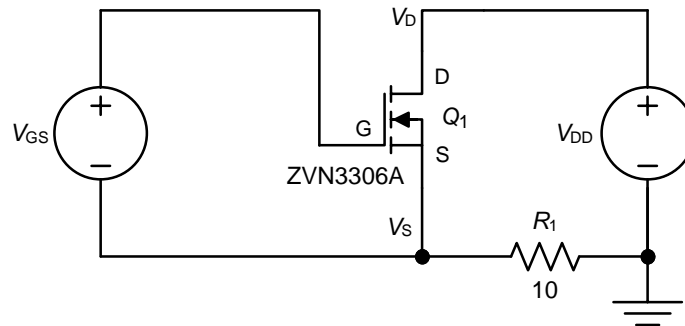

Figure 4. Circuit for measuring the I - V characteristic of a NMOS transistor.
Question 2. The I - V characteristic of an NMOS transistor can be measured with the circuit shown in Fig. 4. The V_{GS} source will be provided by the 6V DC power supply, while the V_{DD} source will be provided by the signal generator. R_1 is a current sensing resistor. The peak amplitude of V_{DD} and the voltage across R_1 yield I - V characteristic of Q_1 for the given V_{GS} . A family of I - V curves can be obtained by V_{GS} .
The first circuit will be built to evaluate the behavior of an NMOS transistor, as shown in Fig. 4. The V_{GS} source will be provided by the 6V DC power supply, while the V_{DD} source will be provided by the signal generator.
2. Construct the circuit shown in Fig. 4. Connect the oscilloscope to measure V_D and V_S . Use the SYNC output of the signal generator to provide a stable trigger source to the oscilloscope. Connect the SYNC output to TRIG IN port at the back of the oscilloscope. In the textbox below, draw how oscilloscope probes are connected to the circuit.